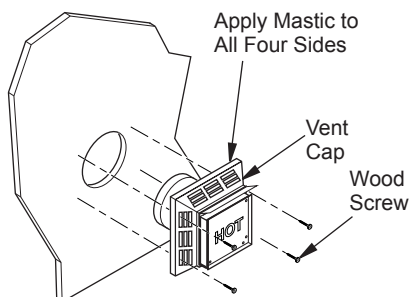

Figure 10 - Installing Horizontal Vent Cap (Noncombustible Exterior)
6. **Noncombustible Exterior Wall:** Position horizontal vent cap in center of the 8 1/2" round hole and attach to exterior wall with four screws (see Figure 10). *Note: The four wood screws provided should be replaced with appropriate fasteners for stucco, brick, concrete or other types of sidings.* Before attaching vent cap to exterior wall, run a bead of non-hardening mastic (pliable sealant) around outside edges to make a seal between it and outside wall.